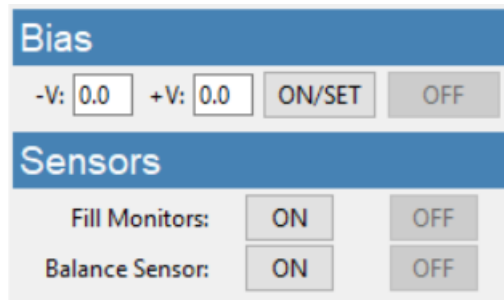

Figure 11. Bias and Sensors frames.
- Negative and positive voltage bias can be changed by entering values (-6.0 V to +6.0 V) in their corresponding boxes (see Figure 11). Click "ON/SET" to apply the setting. Check the bias slider to ensure balance.